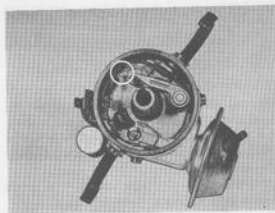

Fig. 3-107. Recess for adjusting the contact breaker
2. Adjustment is made by slackening a little the screw for the breaker contacts and then inserting a screwdriver in the recess, Fig. 3-107, and turning the screwdriver until the dwell angle is the correct one. Then tighten the screw for the contact breaker.